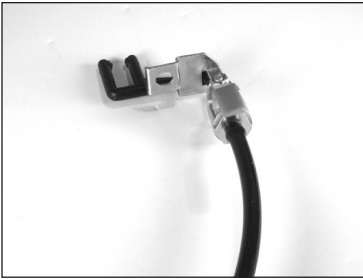
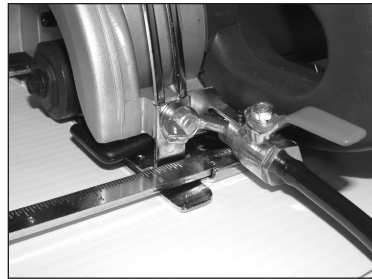

Figure-7
Figure-8
3. Insert the plastic nozzle on the water feed assembly behind the height adjustment slide. Make sure that the water valve bracket (Part No. 133094) is in front of the slide. If your blade is already installed, the plastic nozzles should be positioned so that each nozzle directs water spray onto each side of the blade. (See Figure-7 & Figure-8)